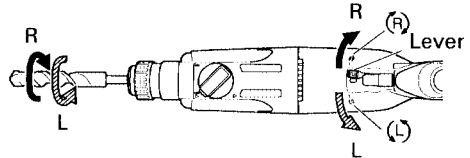

Fig. 5
9. Confirm the direction of bit rotation (Fig. 5)